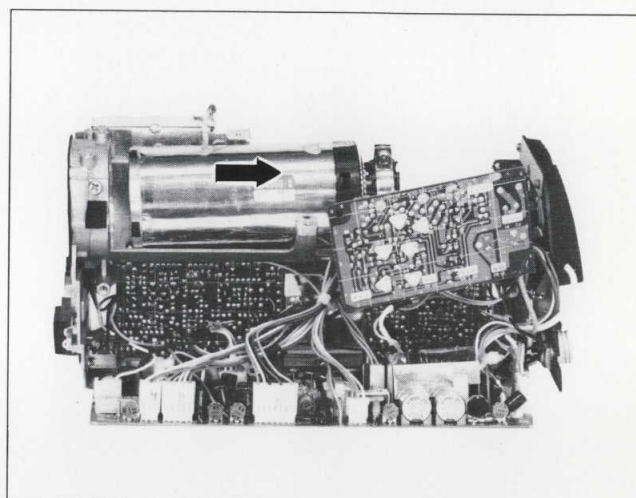

Fig. 9-16 Removal of the deflection yoke assembly (2)
- (6) Remove the yoke assembly by pulling backwards, as shown by the arrow in **Fig. 9-16**.